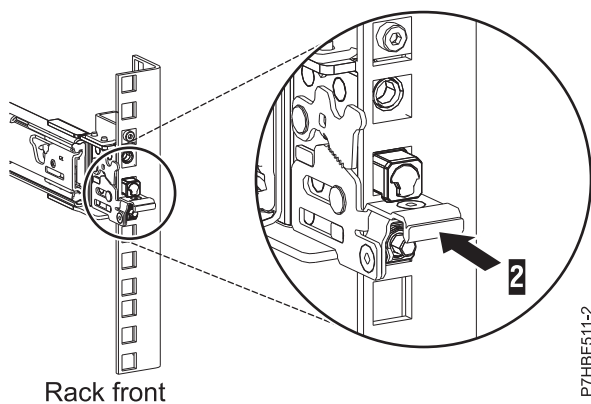

Figure 4. Latch seated on the front rail of the rack
4. While you pull the slide rail forward, ensure that all three pins protrude through the rack holes, then push the front latch (2) all the way in. For details, see Figure 4.